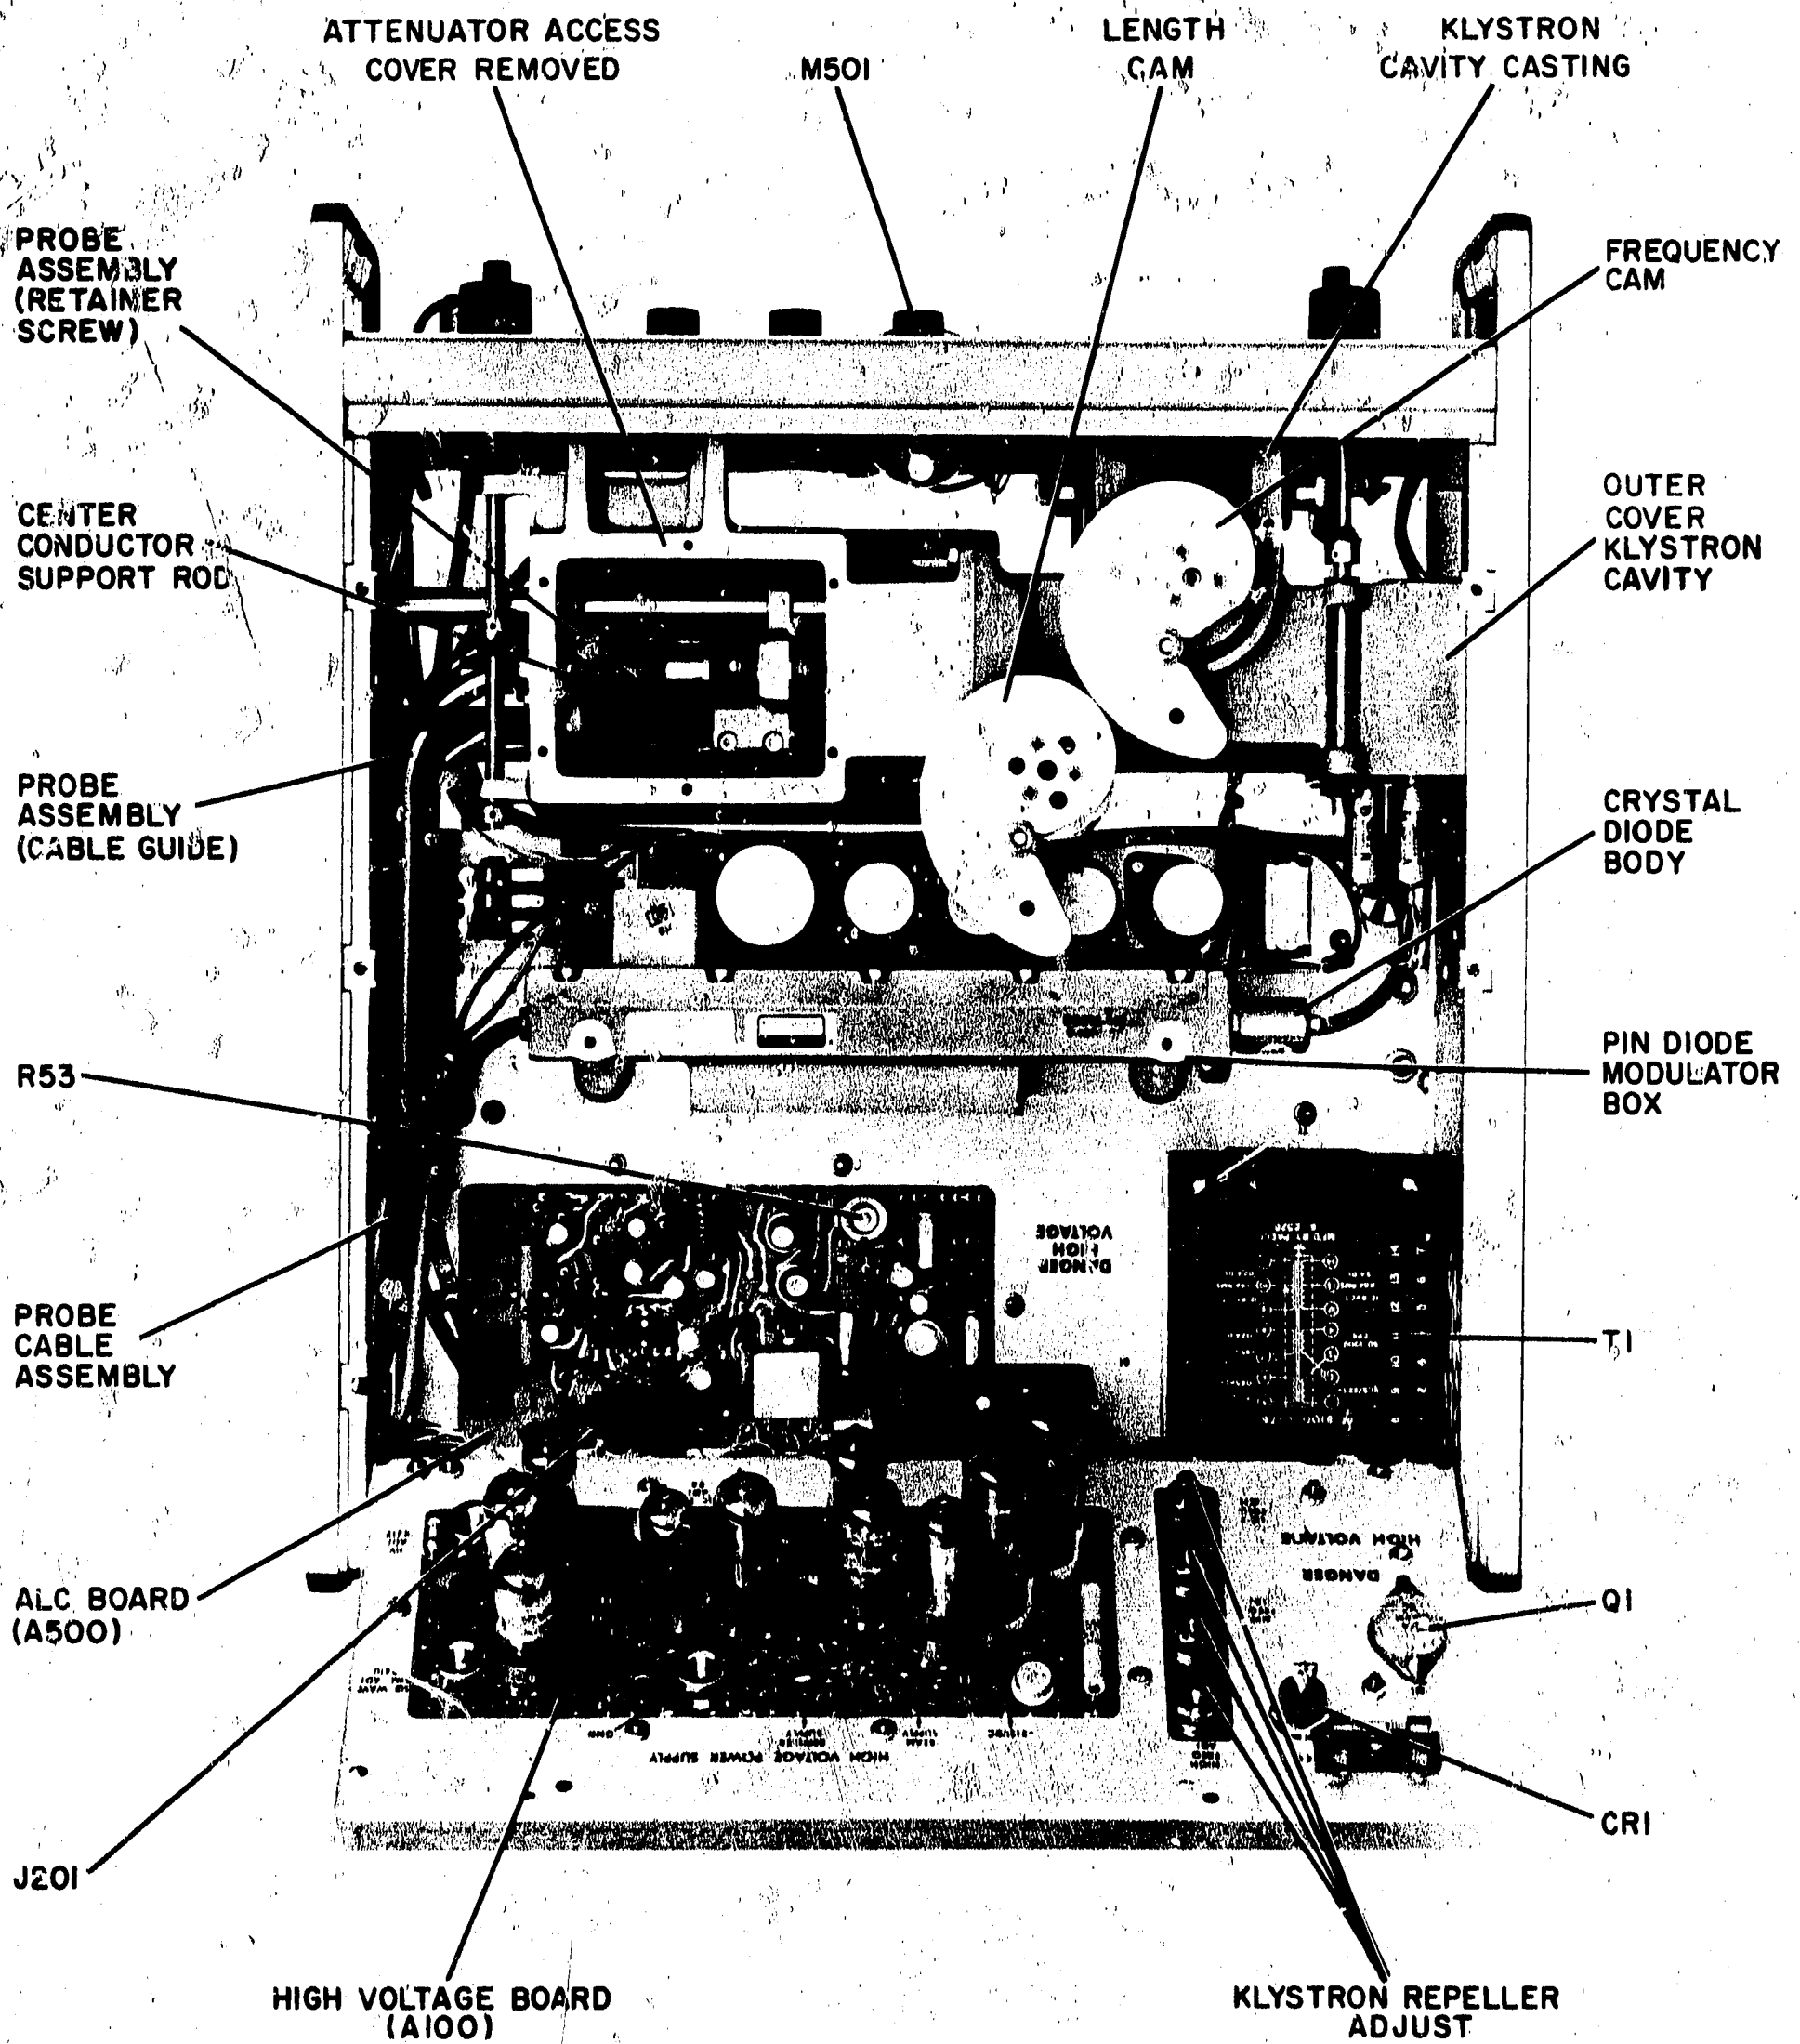

Figure 5-11. Top View, Cover Removed
5-30. If it is necessary to replace the cam cable, order it by HP Stock No. 08614-299 and description of usage. For easier access to the cams, remove the screws holding the High Voltage circuit board and swing the board out of the way. Use Figures 5-11 and 5-13 as a guide and proceed as follows:
d. Orient Length Cam to Frequency Cam as shown in Figure 5-11.